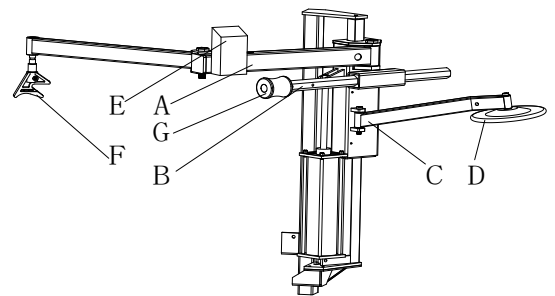

Fig 12
- 4) Install the Rotating arm (A)、Hexagonal horizontal arm (B) and Tire lifting roller support (C) separately on the tire changer;(Fig 12)
- 5) Install the tire lifting roller (D)、 the switch (E)、 tire pressing head (F) and tire pressing roller(G) separately on the tire changer;(Fig 12)
Fig 12 shows functional parts to the 036 device:
Caution: The roller support can't be used for all tires, some tires need following operation: Move the mounting head above the rim; Insert the lifting lever in the clearance between the bottom tire bead and the rim, have the tire hung on the mounting head(Fig 12); Tread the power supply pedal to rotate